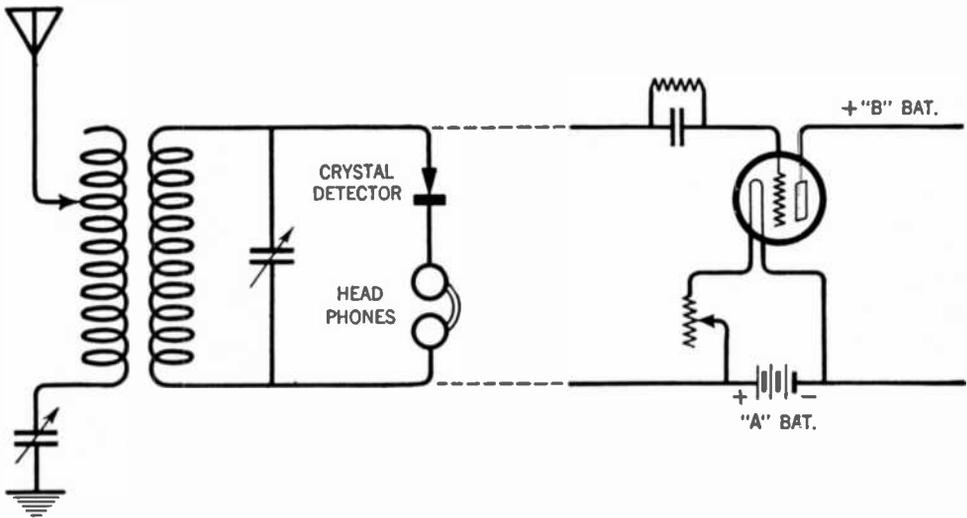

FIG. 53.—Showing how a crystal detector and headphones may be connected in a receiving circuit to receive radio signals in case all tubes become inoperative.
*Answer.* The crystal and headphones would first be connected in series and these in turn connected across the secondary as shown in Figure 53.